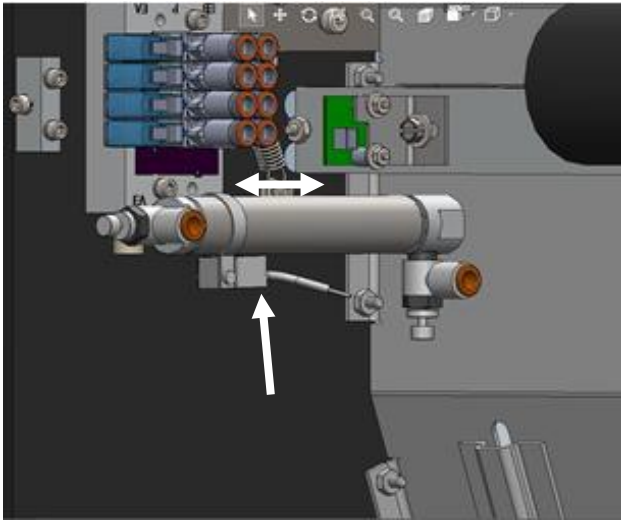
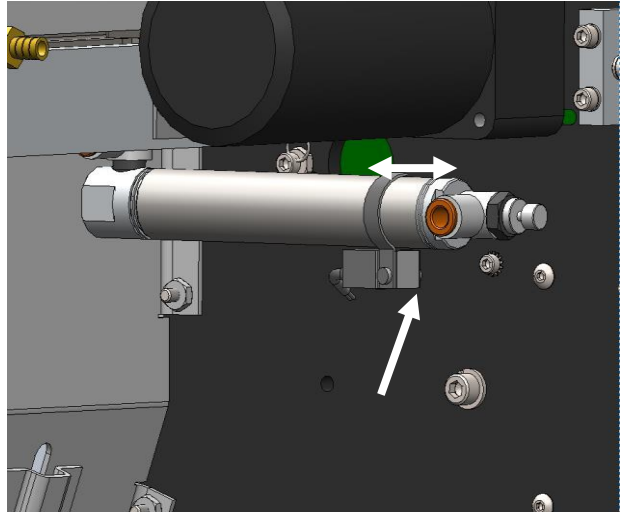

Figure 4-4
Figure 4-5
6. One at a time, loosen the switch on each of the air cylinders and move it forward and backward until X2 or X4 turn on. Adjust each side so both X2 and X4 are on, then tighten. See Figure 4-4 for Left Air Cylinder and Figure 4-5 for Right Air Cylinder.